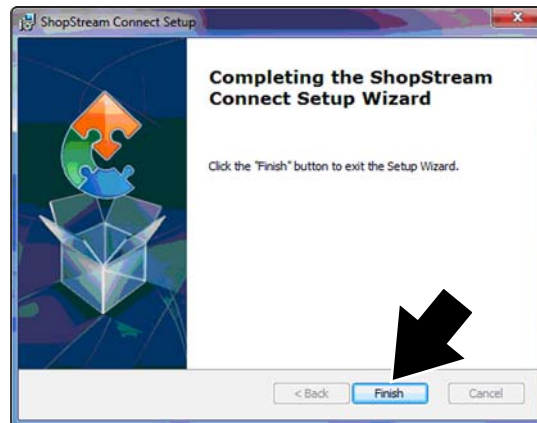

Figure 4-5 Typical Complete screen
- 6. Select **Finish**. (Figure 4-5).